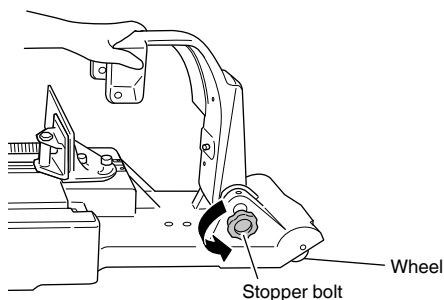

Fig. 2
- (1) Move the lever switch to the OFF position, and remove the battery from the main tool unit.
- (2) When the stopper bolt is loosened, the hinges of the band saw stand will fall over backward (toward the wheels) due to the force of the spring. While loosening the stopper bolt, hold the top of the hinges so that they do not fall over backward. (Fig. 2)